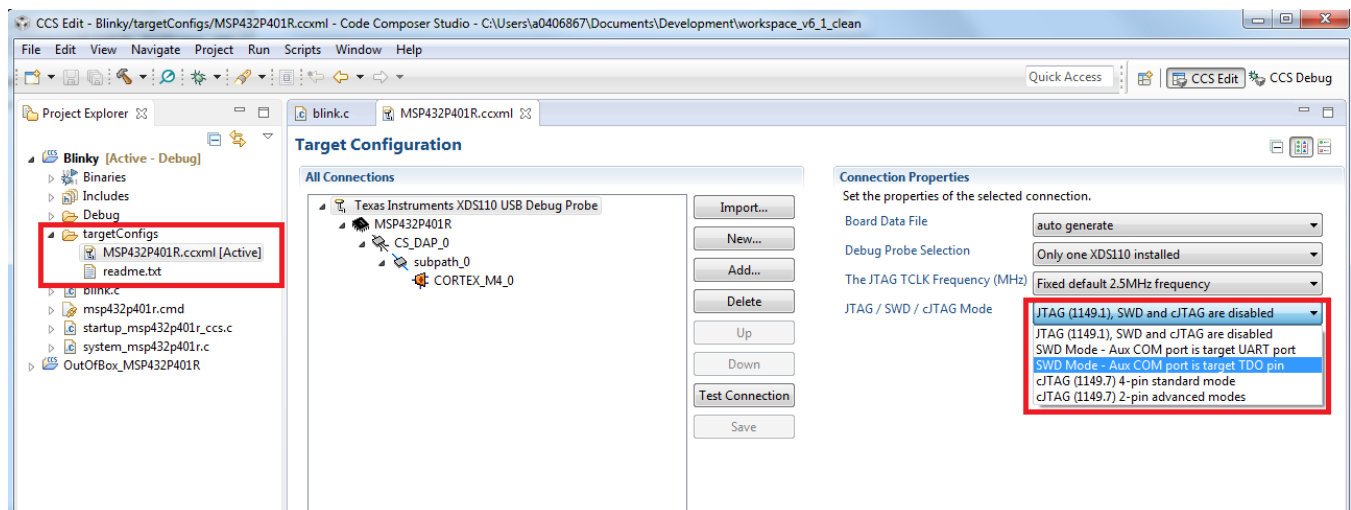

Figure 46. Change Debugger Settings to SWD
- Check the debugger settings: change to *SWD Mode – Aux COM port is target TDO pin*. When the settings of Port J (PJSEL0 and PJSEL1 bits) are changed, full JTAG access is prevented on these pins. Changing to use SWD allows access through the dedicated debug pins only. Figure 46 shows how to configure the debugger to use SWD instead of JTAG by modifying the MSP432P401R.ccxml file.